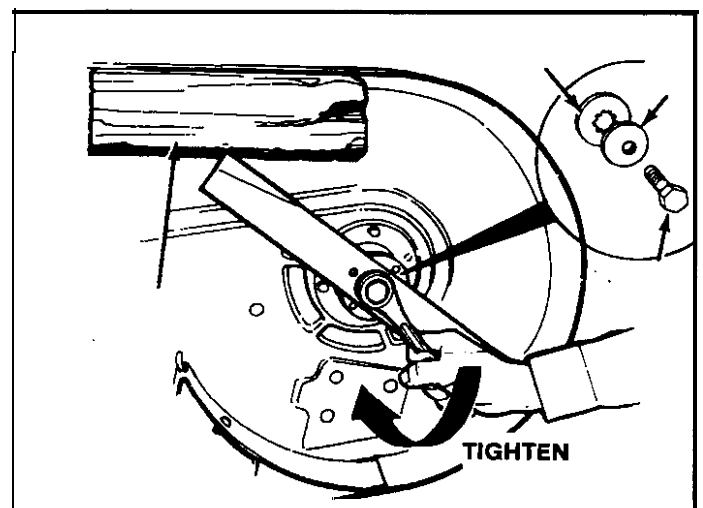

Figure 16. Installing The Blade
6. Reinstall each blade with the tabs pointing up toward deck as shown in figure 16. Secure with a capscrew, spring washer and hex washer. Use a wooden block to prevent blade rotation and torque capscrews to 50-70 ft.lbs. (67-95 N.m.).